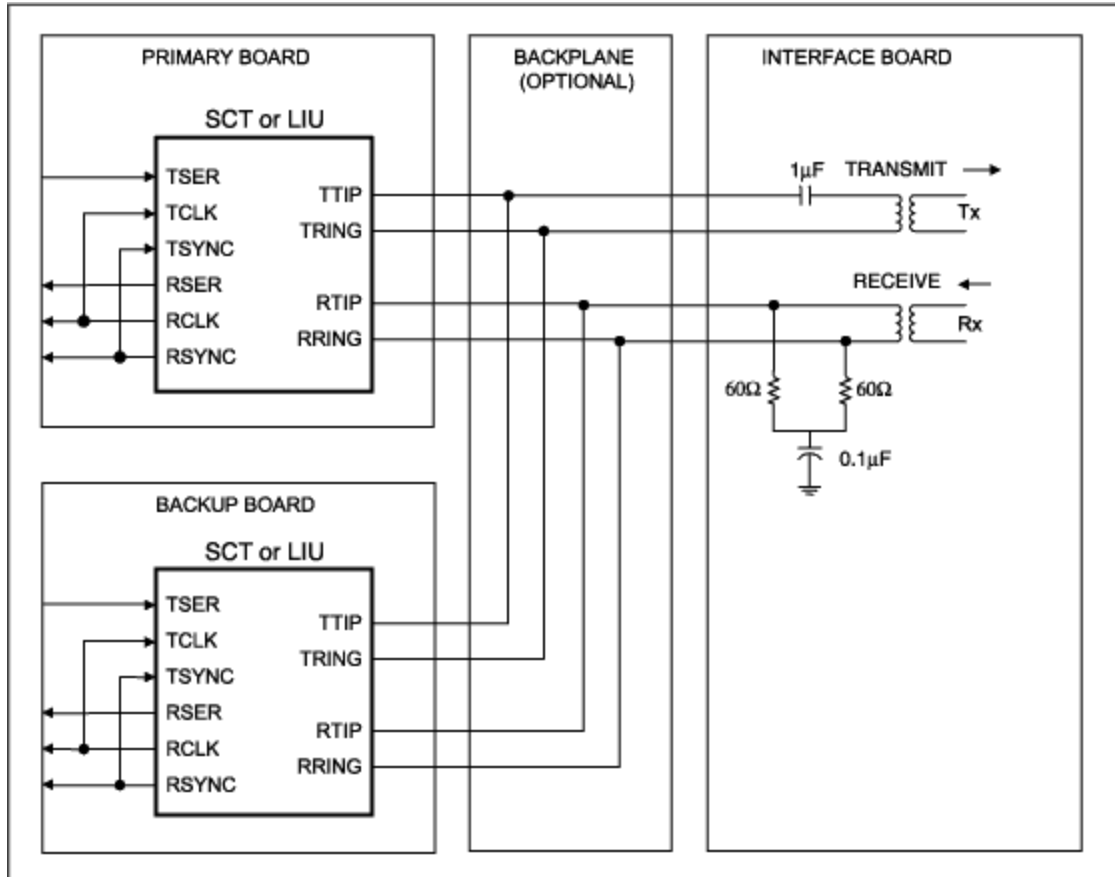

Figure 1. An example of typical connections for a system that provides hitless protection and eliminates the need for bulky mechanical relays.
**Figure 1** shows a redundant scheme that supports hitless protection. The backup transceiver is receiving and framing in parallel with the primary transceiver. This is possible because the Dallas Semiconductor line interface units are designed with high-impedance receive inputs and transmitter outputs that can be tri-stated. Therefore, the backup line card inputs and outputs do not affect the signal that the primary line card is transmitting and receiving. This type of configuration eliminates the need for bulky mechanical relays.